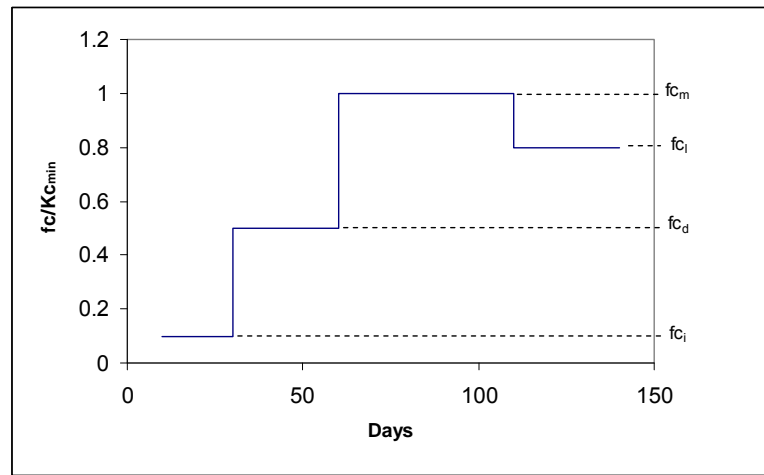

Figure 8. Example of time varying f_c (or K_{cmin}) as specified in the Growth Stage Table.
9. Soil cover fraction / Kc minimum (fc / Kc_{min}) - fc is the soil cover fraction (dimensionless), Kc_{min} is the minimum Kc for dry bare soil with no ground cover (dimensionless). If fc is to be specified then the user enters a value for each growth stage. If fc is to be calculated by LAWS then this column changes to Kc_{min} and a value should be entered for each growth stage (Figure 8, Table 1). Representative values of fc can be found in Table 21 of FAO 56.